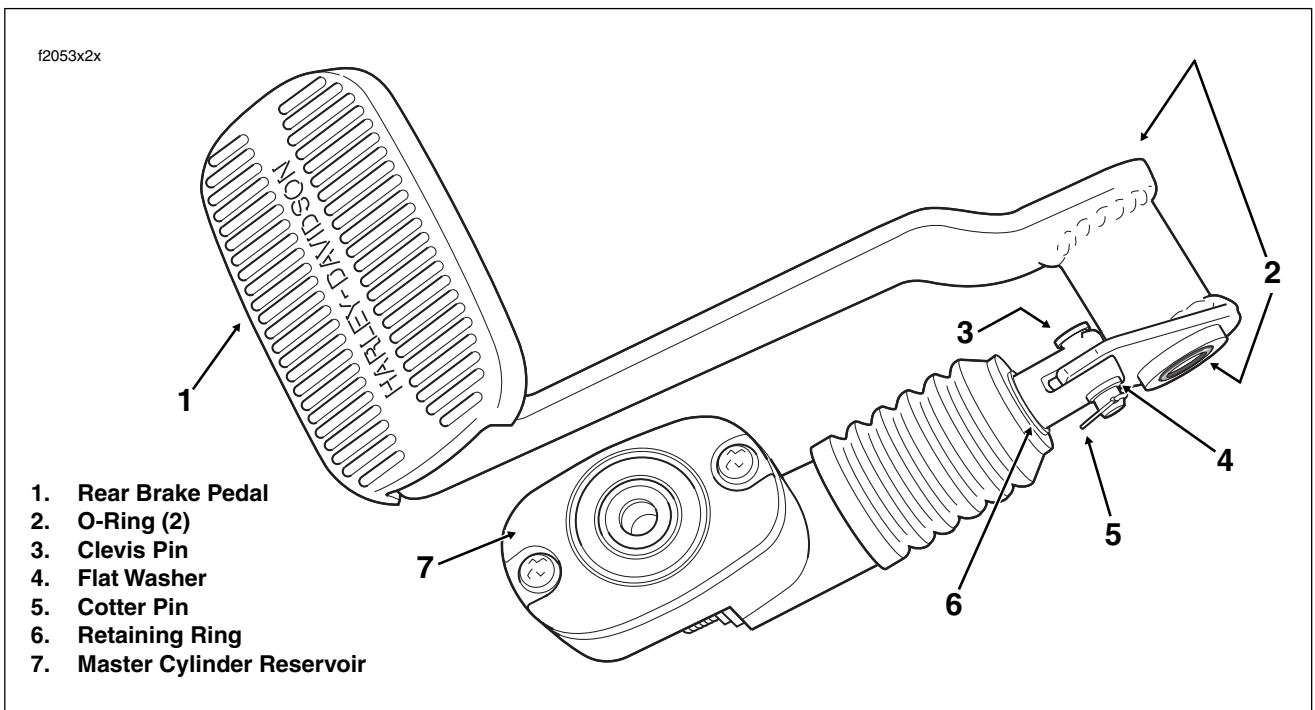

Figure 2-47. Rear Brake Pedal/Master Cylinder Assembly
5. Remove locknut with flat washer to free brake pedal/master cylinder assembly from pedal shaft. Remove assembly from vehicle. Remove and discard O-ring on each side of brake pedal shaft bore. See Figure 2-47.
2. Install master cylinder assembly on brake pedal flange. Supporting assembly in vise, tap in clevis pin using a brass drift. Install flat washer and cotter pin on clevis pin. See Figure 2-47.